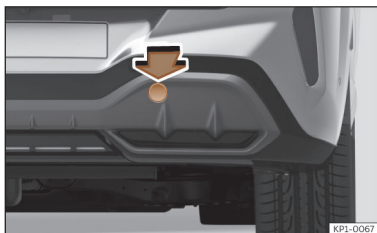

Fig. 215 Rear bumper on right: remove the lid.
>>> **Fig. 215**.
- Press the upper side of the lid >>> **Fig. 215** to unclip it.